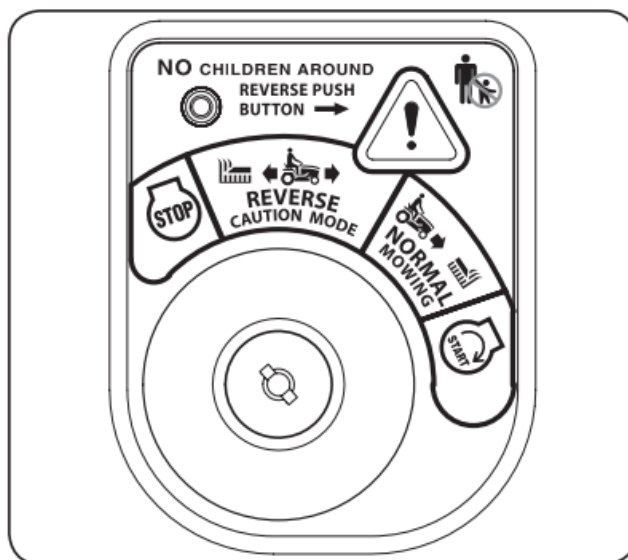

Figure 5-1
2. Turn the key from the Normal Mowing (Green) position to the Reverse Caution Mode (Yellow) position of the key switch module. See Fig. 5-1.
The red indicator light at the top, left corner of the key switch module will be ON while activated. See Fig. 5-1.